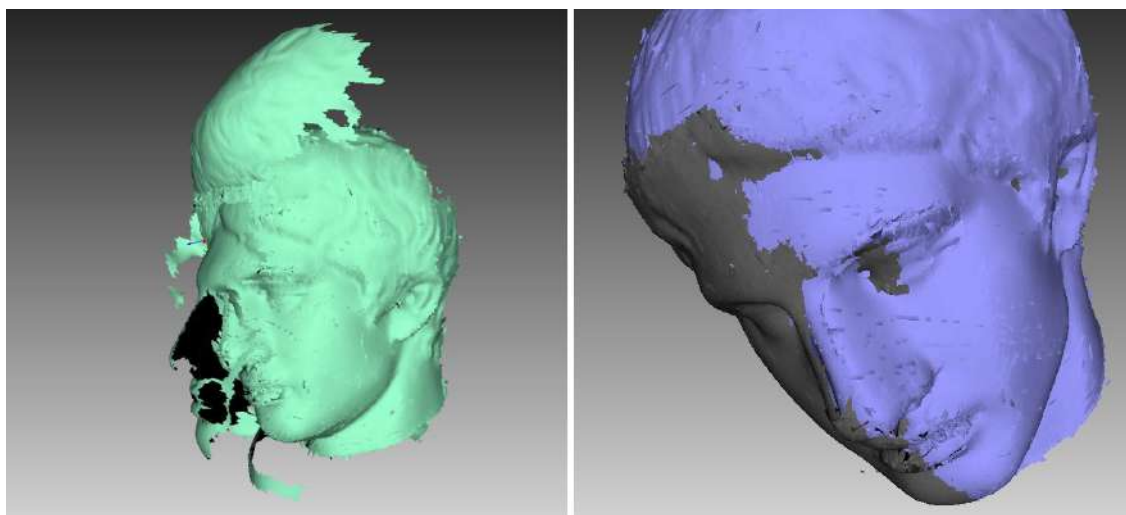

Figure 90: Global-registration errors: wrong settings on left and gap between scans on right.
- After the global-registration algorithm finishes, the frames are in disarray (see Figure 90, left) or the frame positions are unchanged. This error occurs because the application is configured for a different scanner type than the one that captured the data. Change the device type in the application settings (see Algorithm Settings).
- The algorithm has completed successfully, but a gap exists between two or more scans (see Figure 90, right). Select just these scans in the *Workspace* panel and run the global-registration algorithm. If the scans have drawn closer to each other but have failed to align after the algorithm finishes, increase the number of iterations and rerun the algorithm. Repeat this process until you achieve full alignment, then run global registration once again for all data. If you are unable to align several problematic scans, try aligning just two of them, then gradually increase the number of scans until all of them are aligned.